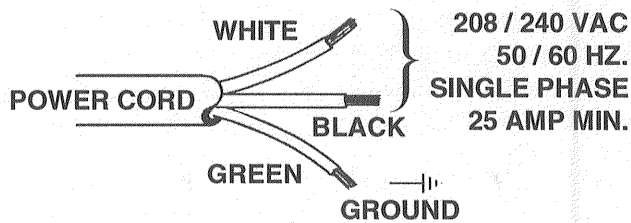

Fig. 10
1. Attach the *white* and *black* wires of the Power Cord to a single phase of 208/240 VAC, 50/60 HZ. The *green* wire should be connected to GROUND. (see Fig. 10)